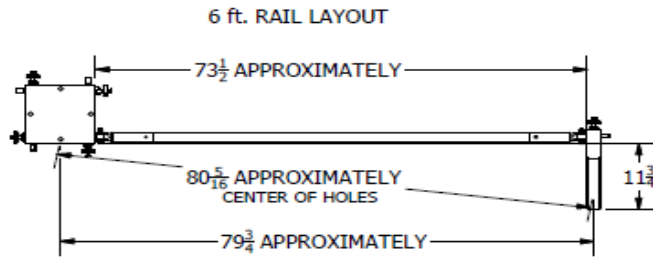

Fig. 6a
3. **Align each Upright with the center frame as layouts below (6' or 8').** Measure all dimensions as shown below before proceeding to the next step (see **Fig. 6a & 6b**).